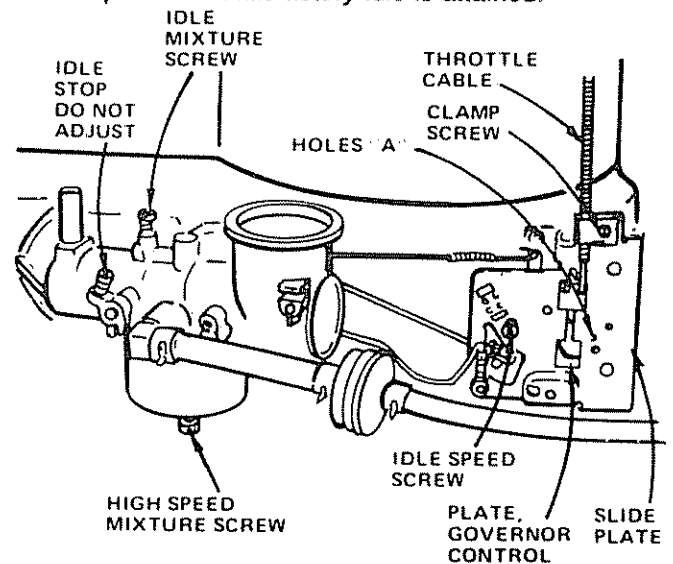

FIGURE 18
- Loosen Clamp Screw (Fig. 18). Adjust Throttle Cable until holes "A" are aligned in governor control plate and slide plate.
- With engine off turn high speed mixture screw clockwise (↻) closing finger tight ONLY, and turn counterclockwise (↺) 1-1/2 turns (Fig. 18)